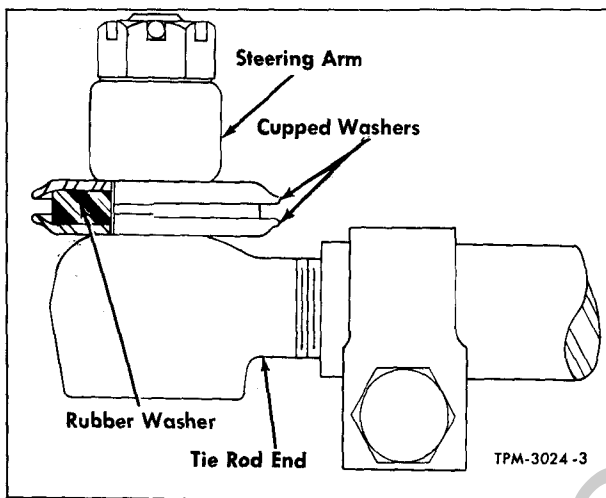

Figure 17—Tie Rod Anti-Rotation Bushing
On some trucks covered in this manual equipped with power steering, anti-rotation bushings are installed over tie rod end studs between tie rod ends and steering arms (fig. 17). Each bushing consists of two cupped washers and a rubber washer. Purpose of anti-rotation bushings is to prevent weight of the power cylinder, which is clamped to the tie rod, from rotating the tie rod and causing
3. With parts properly aligned (fig. 17), tighten socket end clamp bolts to 40-50 ft.-lbs. torque.